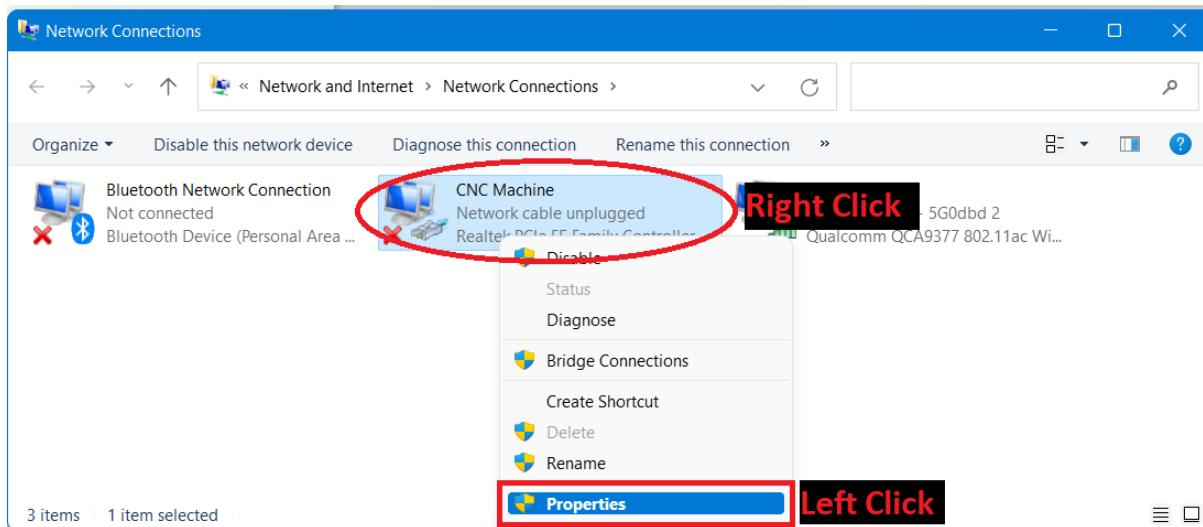

Figure 6: Network Properties
This is just a name to allow you or any PC support personal to see the connection has been renamed and edited from default settings. You can call it anything to easily identify it like "CNC" or "EXEC" or "CNC Machine". The name does not affect the function of the machine. See Figure 6
- 3- After finding and optionally renaming the connection it is time to setup the network parameters. To setup the connection with direct cable connection to your CNC machine, right click on the renamed connection and on the pop-up window left click the Properties button. Please note that for this action to work the user must have administrator rights in the Windows account. See Figure 6.